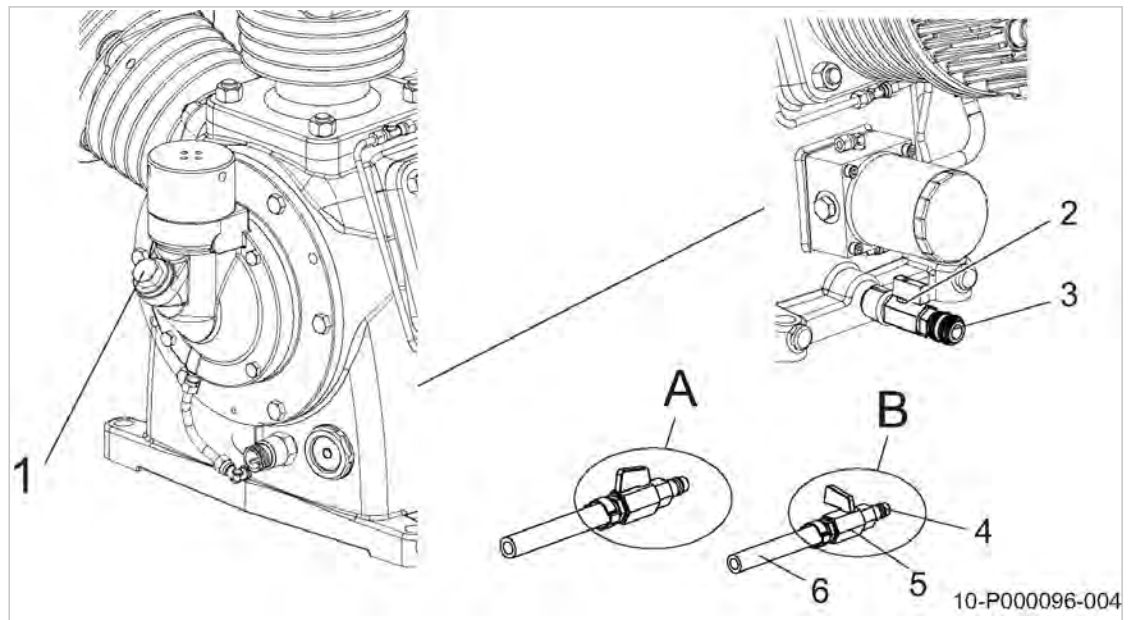

Fig. 42 Changing the compressor oil
1. Open the filler plug  (Fig. 42) slowly.